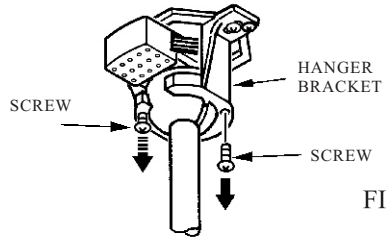

FIG.7
3. Remove one screw and loosen the other screw from the hanger bracket. (see Fig 7)